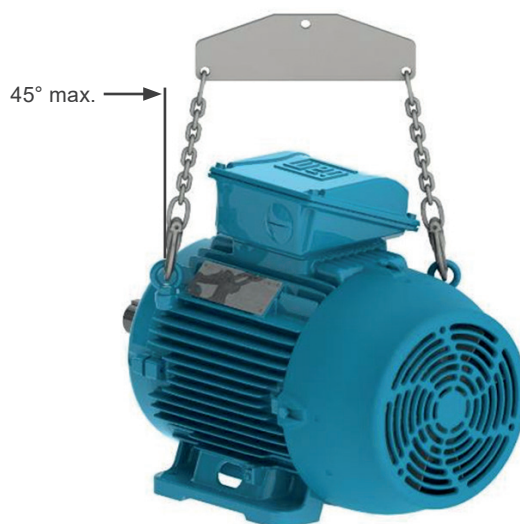

Figure 4.4: Maximum resultant angle for motors with two or more lifting eyebolts
- For motors with vertical lifting eyebolts, as shown in Figure 4.4 on page 14, the maximum allowed lifting angle should not exceed 45° in relation to the vertical axis. We recommend using a spreader beam for maintaining the lifting elements (chain or rope) in the vertical position and thus preventing damage to the motor surface.